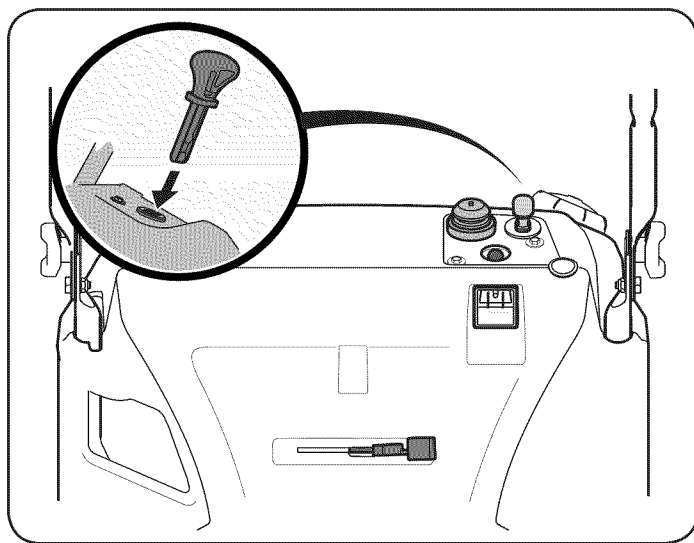

Figure 10
2. Insert ignition key into slot. Make sure it snaps into place. Do not attempt to turn the key. See Figure 10.